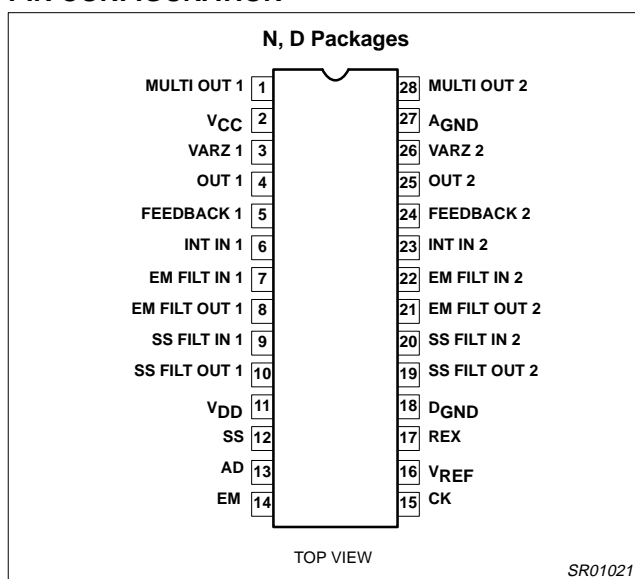

Figure 1. Pin Configuration
**DC ELECTRICAL CHARACTERISTICS**All specifications are at  $T_A=25^\circ\text{C}$ ,  $V_{DD}=5\text{V}$ ,  $V_{CC}=12\text{V}$ . Test circuit Figure 1.